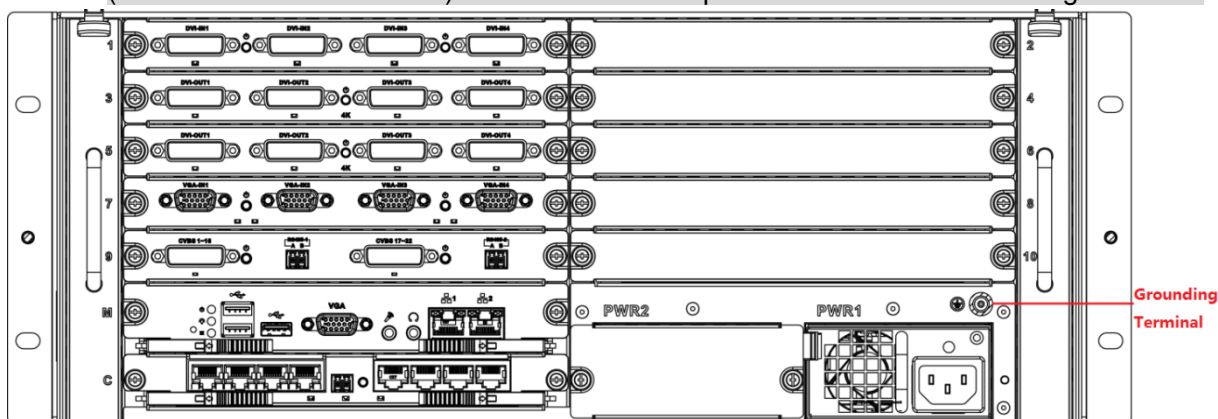

Figure 1-10
Step 7 Ground terminal of Video Matrix Platform shall realize reliable grounding, as shown in Figure 1-10.